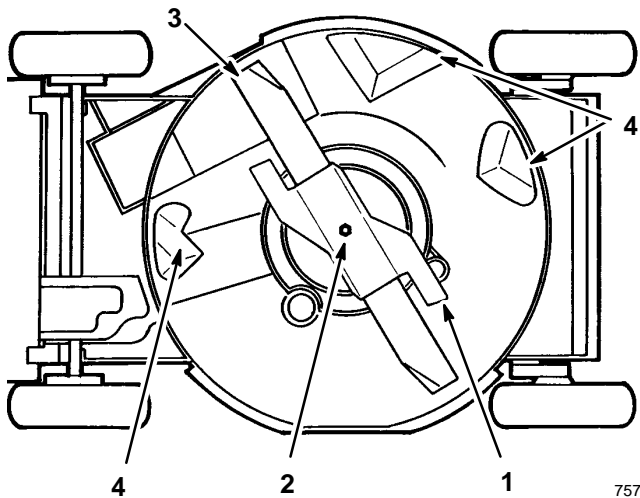

Figure 24
3. Tip mower on its left side (Fig. 24).
5. REMOVING BLADE—Grasp end of blade using a rag or thickly padded glove. Remove blade bolt, lock washer, blade accelerator, and blade (Fig. 24).